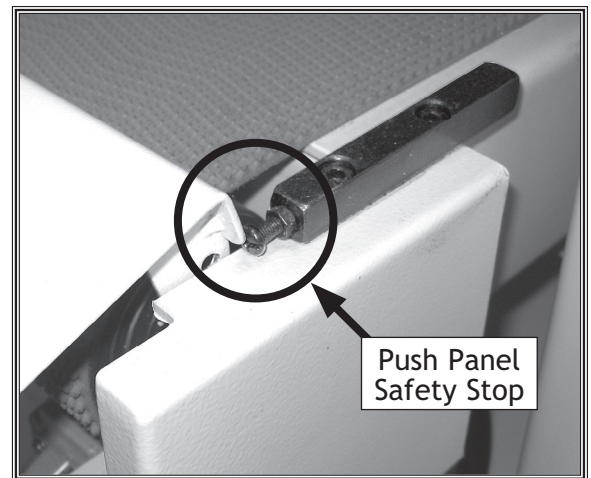

Figure 31. Push panel safety stop.
1. Lift the emergency stop push panel so it contacts the safety stop shown in Figure 31. The safety stop prevents the top edge of the push panel from tearing the conveyor belt when you lift the push panel during conveyor tracking adjustments.